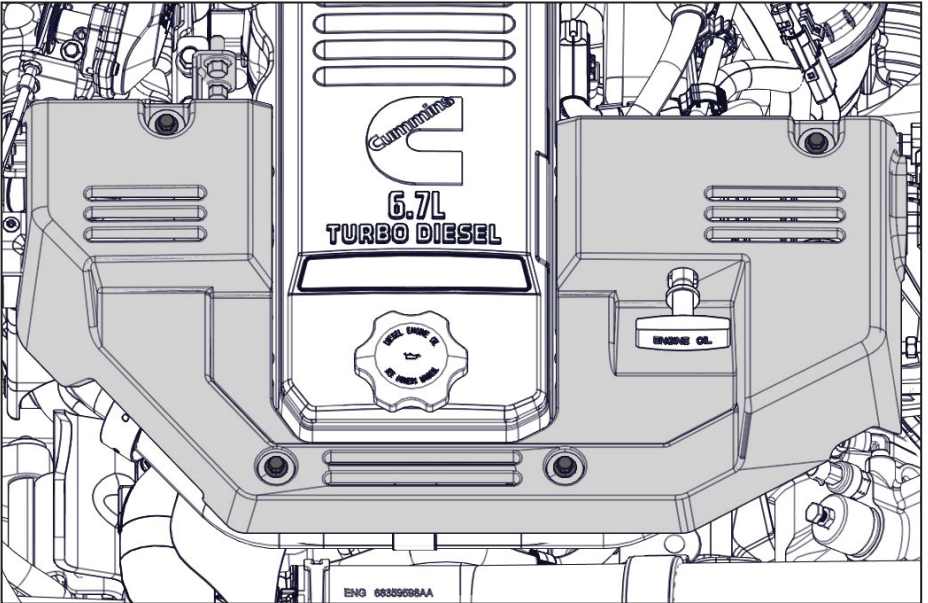

Figure 9 — Remove aesthetic engine cover
- Remove the aesthetic engine cover (Figure 9).